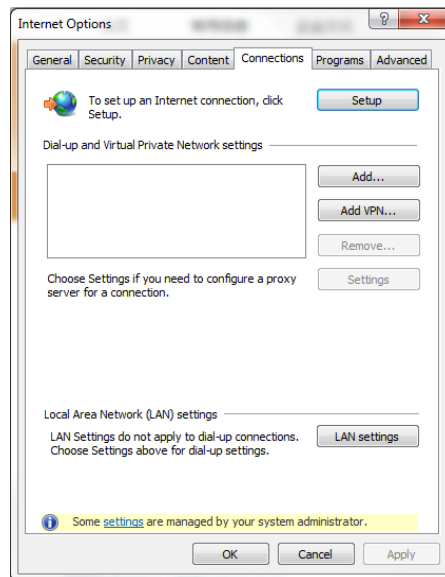
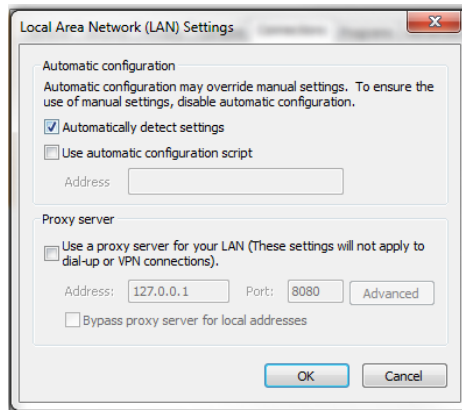

Figure 3-20 Select Connection tab
Figure 3-21 LAN Settings
Double-click the IE icon to run the software, click the Tools menu → Internet Options, then select Connections tab, the pop-up page shown in Figure 3-20.
Page shown in Figure 3-20, click LAN settings (L), the pop-up page shown in Figure 3-21.